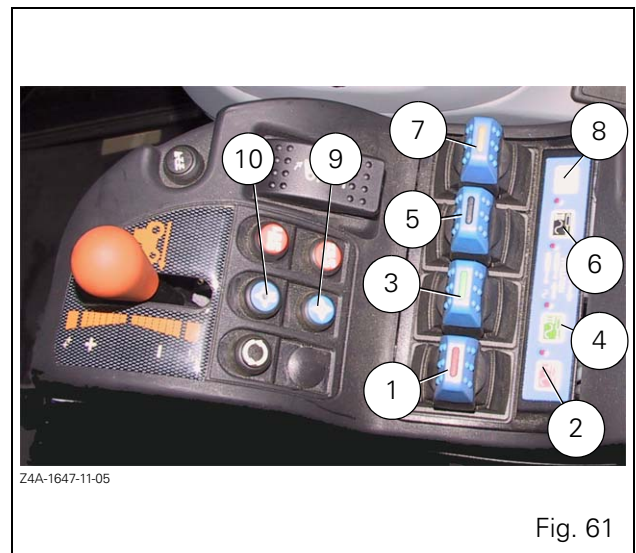

Fig. 61
### Flow rate setting (models without Datatronic 3) (Fig. 61)
If a memorised flow rate has to be changed or cancelled, move the joystick and hold down the memorisation key (9. Fig. 61) for five seconds. The flow rate returns to its maximum.
All pre-recorded flow rates may be reinitialised in one operation by holding the memorisation key (9. Fig. 61) down for about five seconds, with the joystick in neutral regardless of the version installed. The indicator light 4flashes during this time.